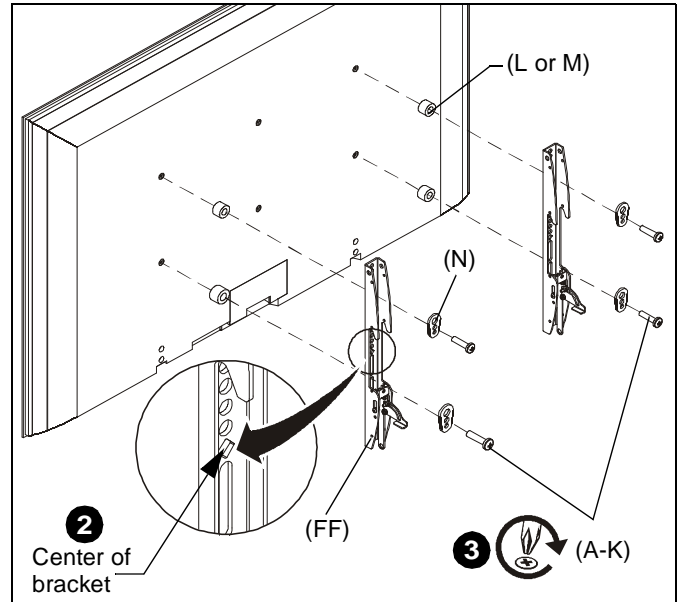

Figure 6
2. Align the center of the interface brackets (FF) with center of both displays. (See Figure 6)
3. Select correct screws, spacers (if necessary) and universal washers from the hardware bag (A-N) and attach brackets (FF) to back of both displays. (See Figure 6)